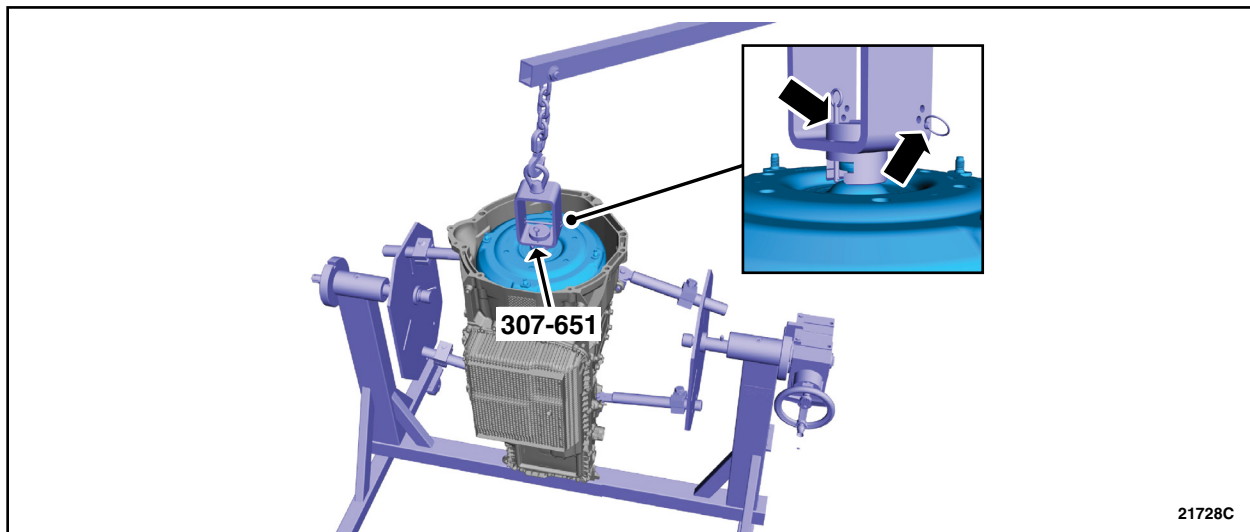

FIGURE 3
4. Using the special tool and a floor crane, remove the torque converter. See Figure 3.